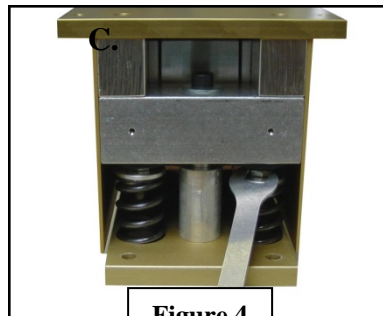

Figure 4
B. Use the M6 spanner wrench (included) to turn the adjustment nuts located on top of the support springs (see Figure 4). Turning the wrench to the RIGHT lowers the modules and INCREASES the upper gap (between the central stopper nut and the cross brace). Turning the wrench to the LEFT raises the modules and DECREASES the upper gap.